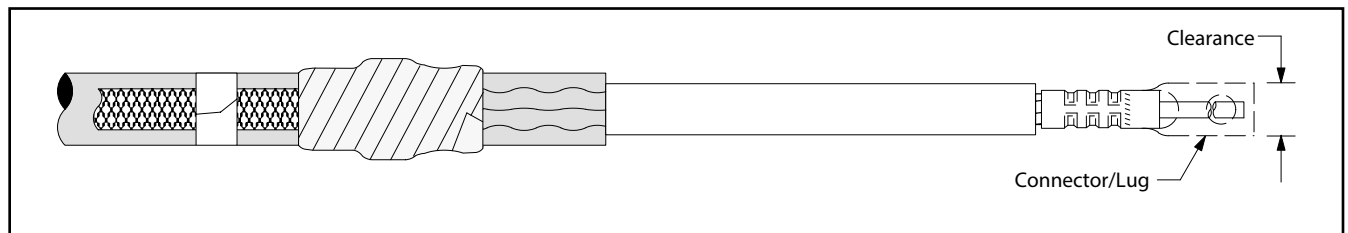

Figure 23
- 14.1 Check to insure 3M™ Cold Shrink QT-III Silicone Rubber Termination assembly fits over the selected lug or connector. If lug or connector (*Figure 23*) will not fit through the termination core, clean the insulation (per Step 15.0) and slide termination on cable before installing lug or connector. **DO NOT REMOVE CORE AT THIS TIME.**